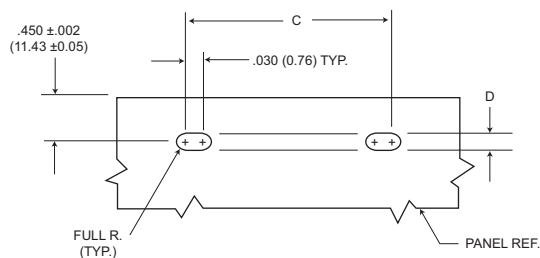

Figure 3
3. Edgeboard mounting bracket (figure3) uses #2-56 screws. Dimension .450 ± .002 (11.43 ± 0.05) locates the MD receptacle flush with the end of the board.